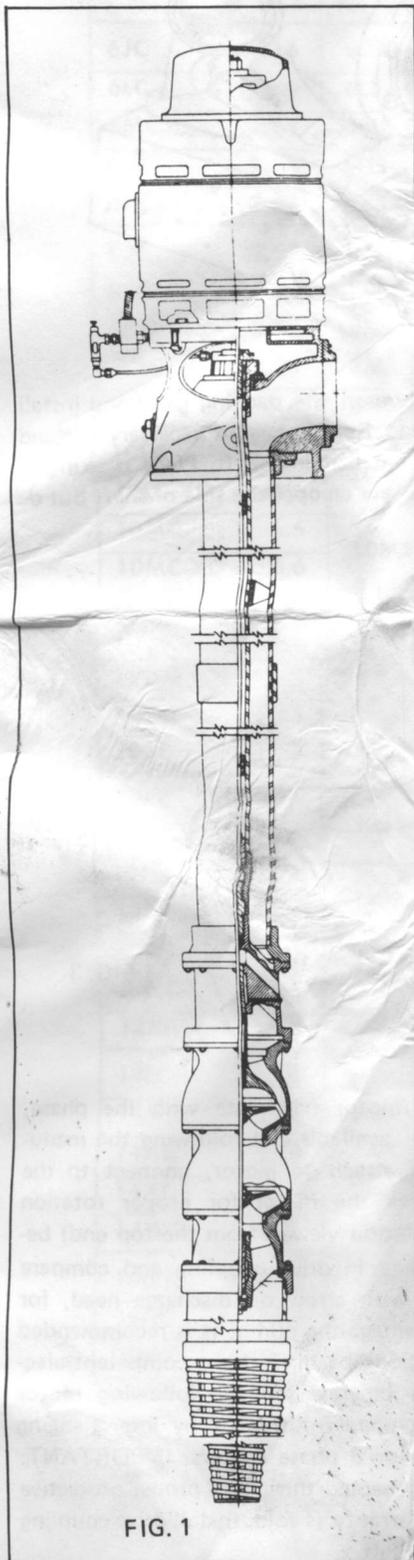

FIG. 1
**UNCRATING AND CHECKING:** Uncrate all parts and examine carefully for shipping damage or shortages before starting installation. See Figure 1. Lay the column and shafting on cross timbers with the coupling end toward and near the well.